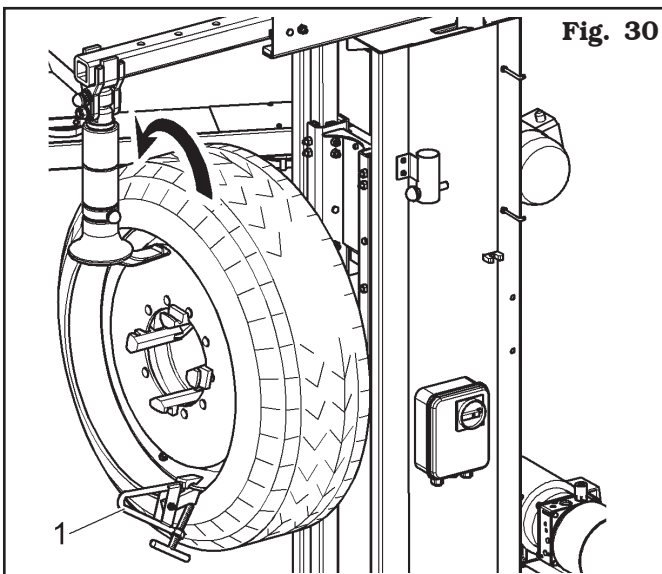

Fig. 30
24. lift the self-centring chuck and mount the clamp for alloy rims (optional) (**Fig. 30 ref. 1**) on the rim outside the second bead at about 20 cm (7.87") from the inflating valve on the right;
25. turn self-centring chuck counterclockwise until clamp for alloy rims (optional) (**Fig. 30 ref. 1**) is at "1 o'clock";